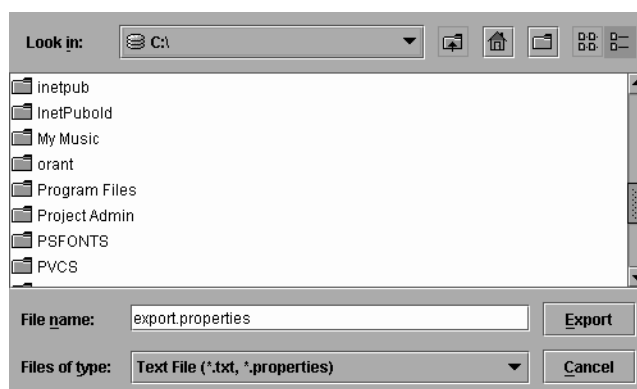

Figure 33: Export Nicknames Dialog Box
1. Click the **Export** button to display the **Export Nicknames** dialog box (Figure 33).